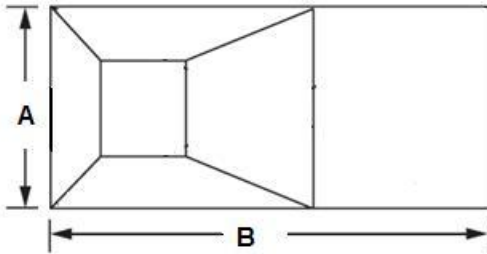
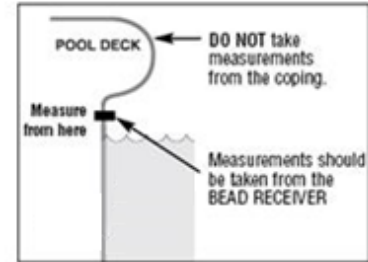

Figure 1
Figure 2
Referring to the illustration of your rectangular pool (figure 1), be sure that the width (A) and the length (B) measurements are made at the bead receiver (where the liner snaps into the track), not at the edge of the coping (the edge of the pool deck). See figure 2.